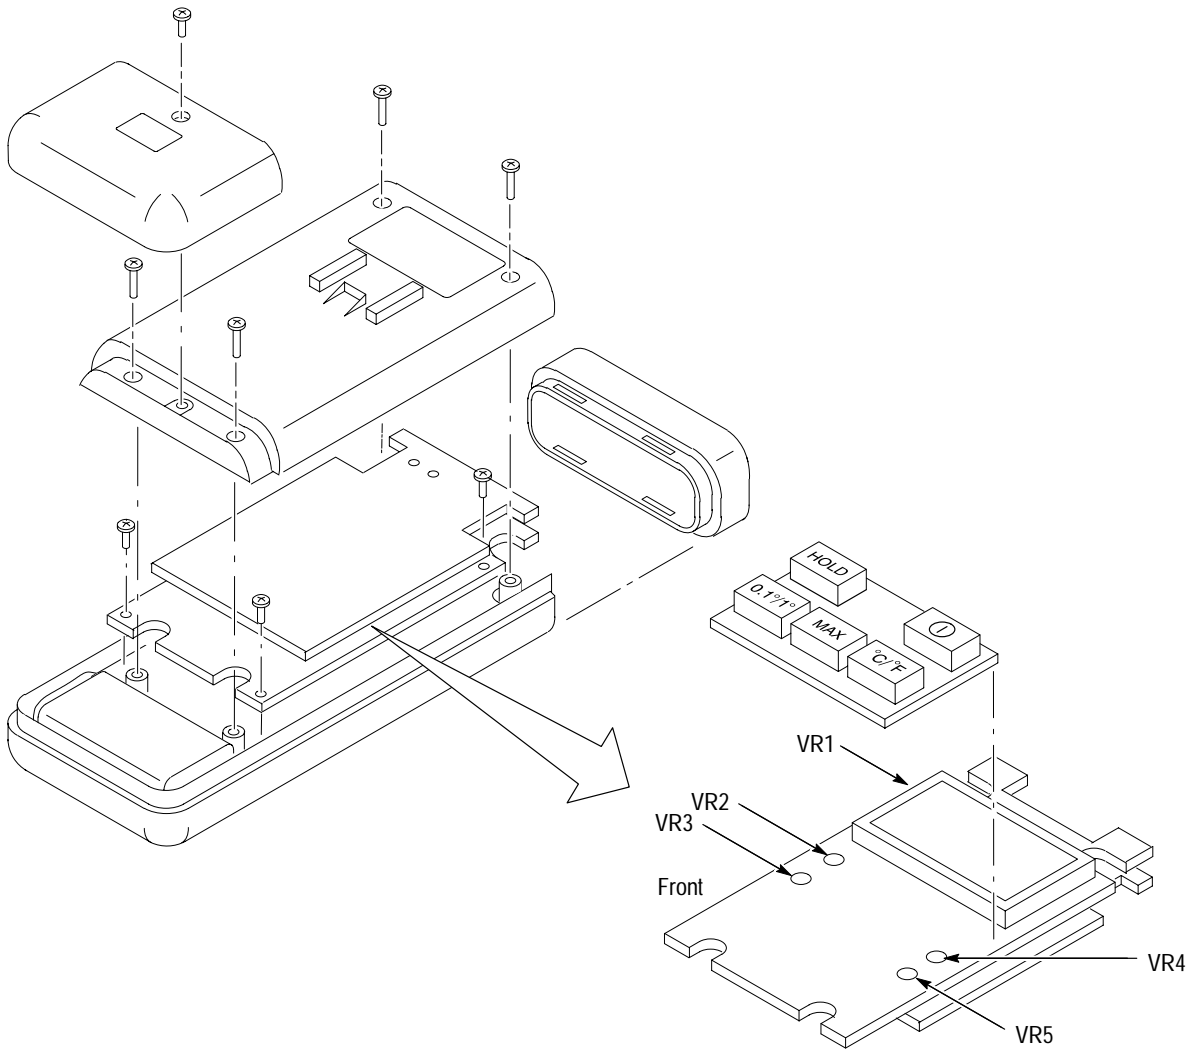
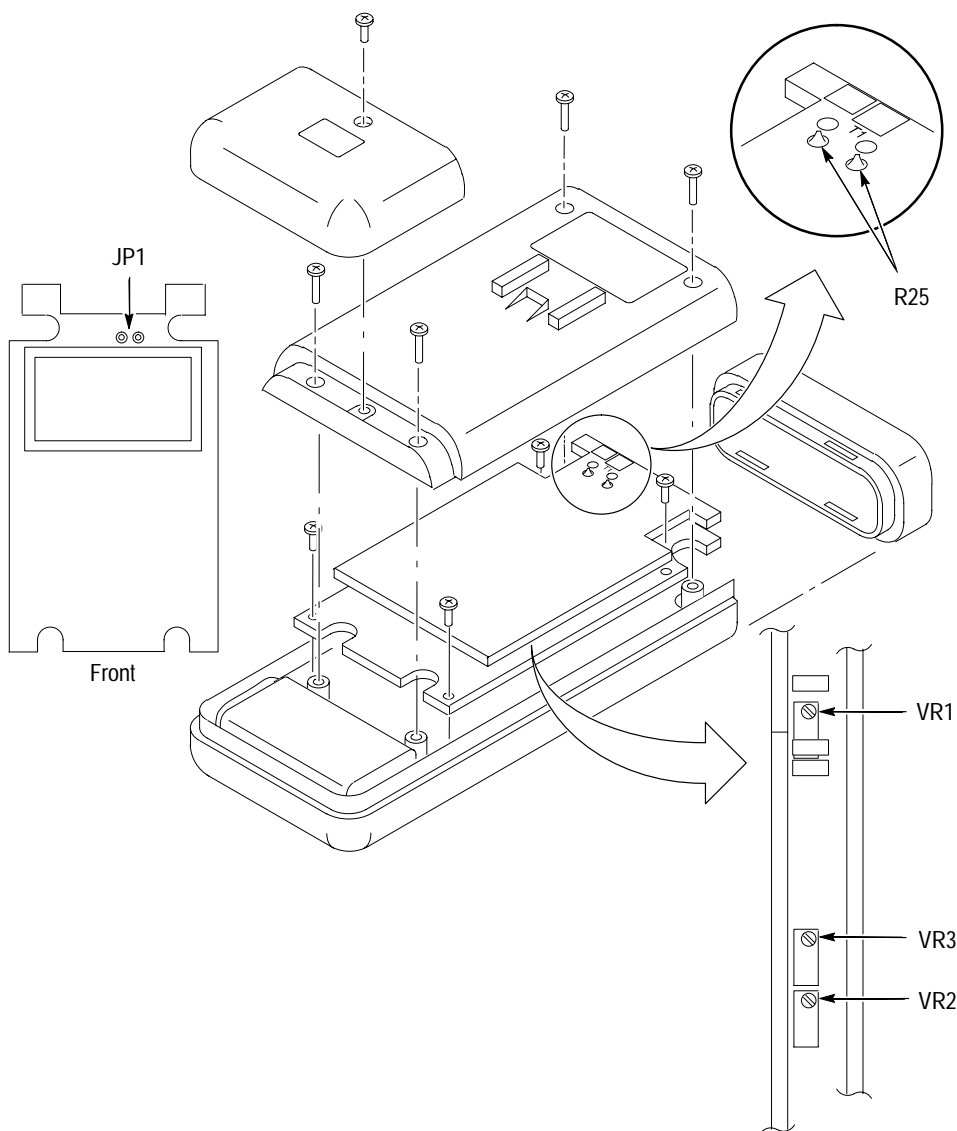

Figure 2: DTM510 Thermometer disassembly and adjustment locations
Figure 3: DTM520 Thermometer disassembly, test points, and adjustment locations
To make internal adjustments, you must open the thermometer case and remove the circuit board (see Figure 2 or Figure 3).
5. For each row in Table 7, set the thermometer and simulator as shown; then adjust the specified test point until the displayed temperature is within the proper limits. Figure 2 shows the location of the adjustment points.
This section describes how to adjust the DTM520 thermometer. To properly adjust the thermometer, perform the following steps in sequential order. Figure 3 shows the location of the test and adjustment points.